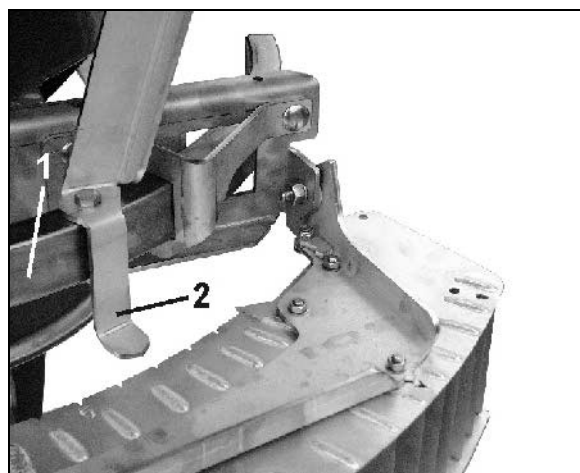

Fig. 60
2. Move the boundary spread deflector on the guide rail (Fig. 60/1) until the pointer (Fig. 60/2) shows the value to be set following the spread rate table (Fig. 58).